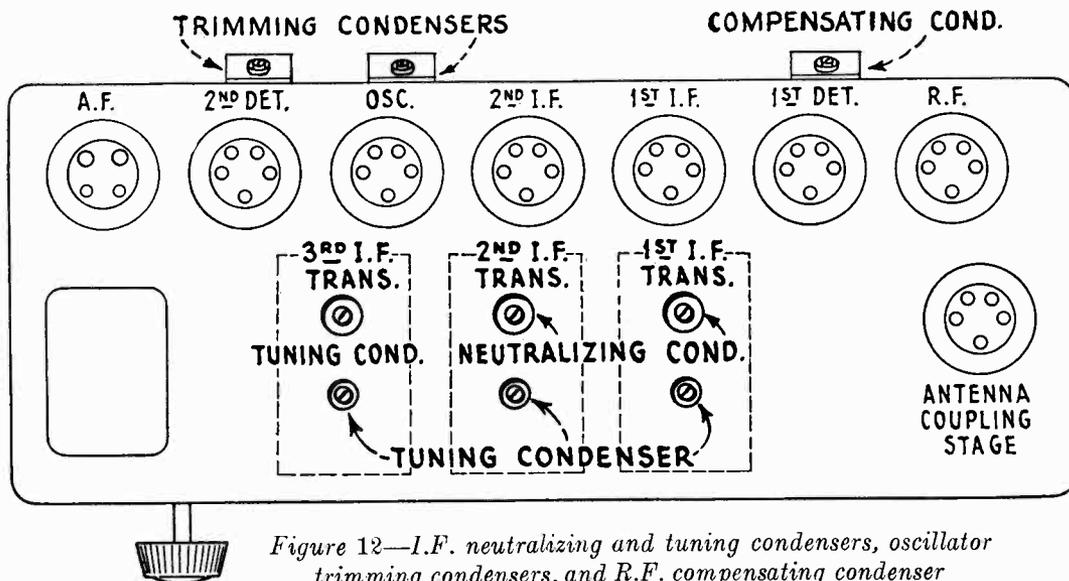

Figure 12—*I.F. neutralizing and tuning condensers, oscillator trimming condensers, and R.F. compensating condenser*
- (a) Adjust the tuning condensers successively on the third, second and first I.F. transformers (Figure 12) for maximum signal in the loudspeaker and maximum reading on the milliammeter. If pointer should go off milliammeter scale reduce the volume control. After making one adjustment on the transformers it is a good plan to repeat, as slight changes may have occurred in tuning the other circuits. No signal, or a loud howl indicates neutralizing condensers are at either extreme, and should be readjusted.
- (a) Leave all adjustments and apparatus in position on completion of tuning, but substitute a pair of phones for the loudspeaker. Place dummy Radiotron in first I.F. socket. Now adjust the neutralizing condenser on the first I.F. transformer. (See Figure 12) for the position of minimum or no signal. This is easily identified and the adjustment is not critical.
- (d) Adjust trimming condenser on left (facing front of Radiola, Figure 12) for a maximum reading.